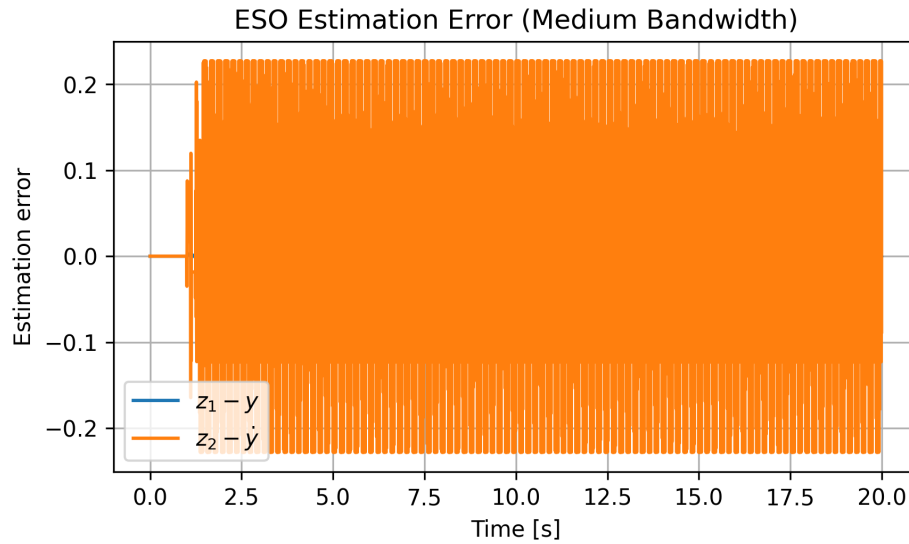

Figure 10.3: ESO estimation error for the medium-bandwidth design.
4. Study Figure 10.3 to evaluate ESO estimation error and confirm convergence consistent with the Lyapunov discussion above.